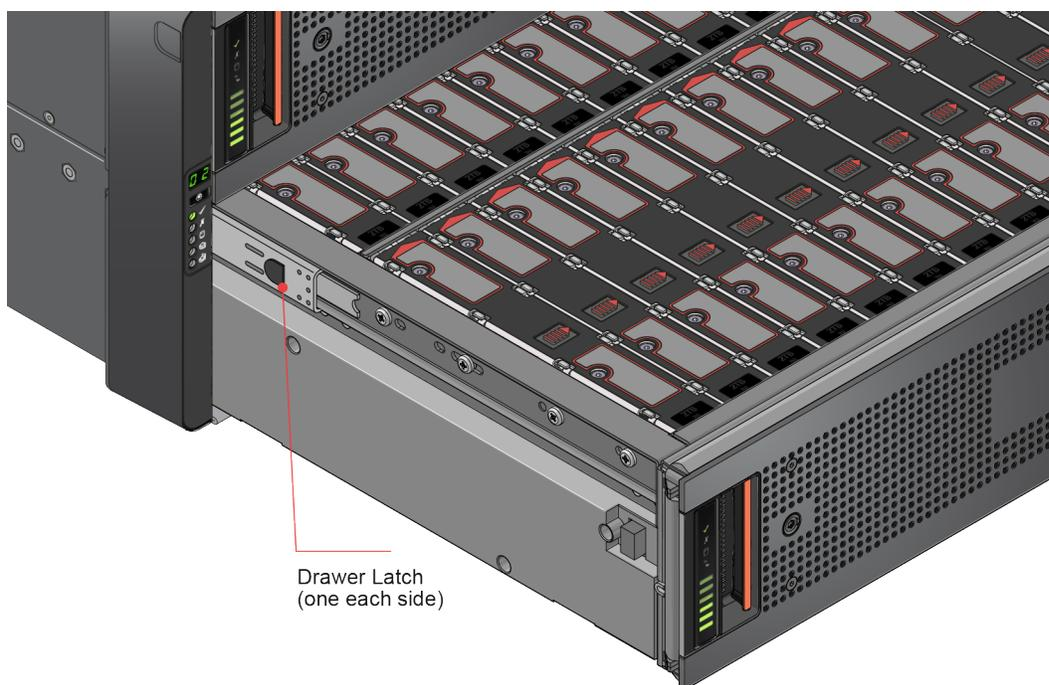

Figure 89. Drawer Latches
1. Press and hold both of the black latches on the sides of the drawer (see Figure 89 “Drawer Latches” on page 86).